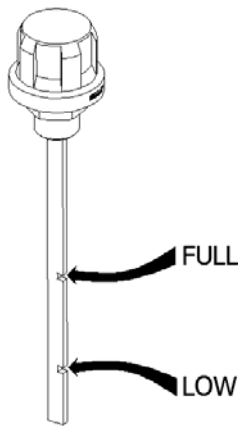

Figure 15. Dipstick Markings
4. If the oil level is low, fill to the "FULL" mark, Figure 15. **Do Not** overfill.